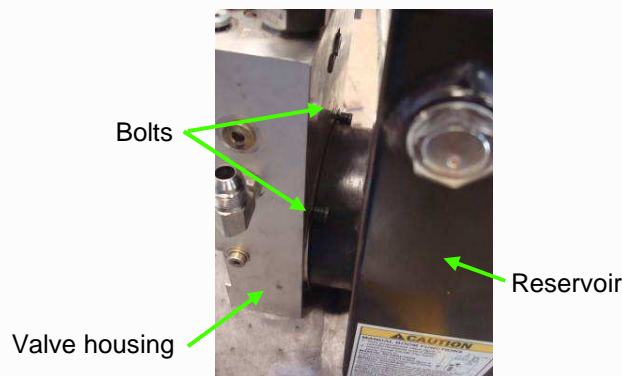

Figure 1.12
2. Unbolt and remove the valve housing from the reservoir. Refer to figure 1.12.